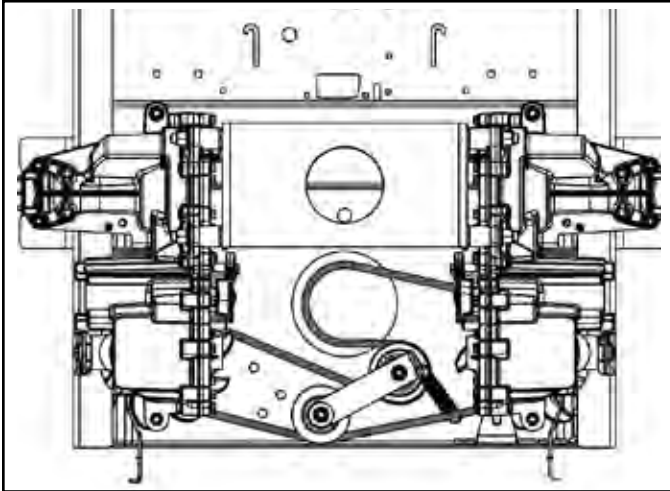

Fig. 082
6. Install the hydro drive belt and verify proper routing (Fig. 082).